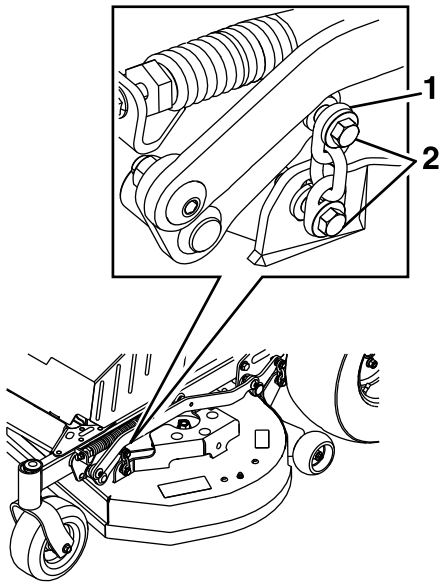

Figure 33
12. Loosen the hardware at the bottom of all four lift chains so the deck is sitting securely on the blocks (Figure 33). Make sure the slack is removed from the lift chains and retighten the hardware.
14. Raise the deck into the transport position and reinstall the deck lift assist spring. Tighten the adjuster screw until a 6.0 to 6.4 cm (2-3/8 to 2-1/2 inches) gap is present (Figure 33).